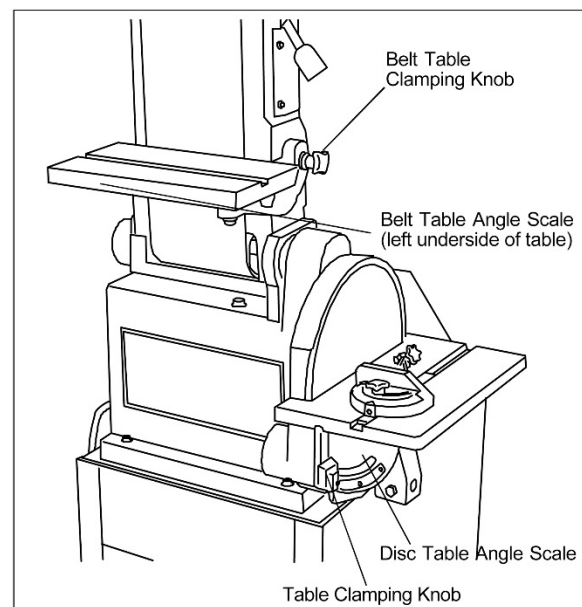

Figure 6: sander table angle
1. To change the disc table angle, loosen clamping knob on left side of table (refer to Figure 6).
1. To change belt table angle, loosen clamping knob on right side of platen housing (refer to Figure 6).